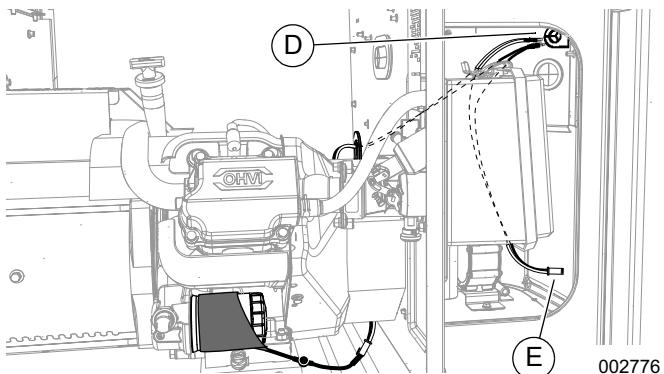

Figure 5. Lead Wires to Customer Connection (9 kW)
5. See **Figure 5**. Pass the lead wires through the customer connection panel grommet (D). If the empty Y-harness socket (E) will not be connected to a battery heater, coil the wires and secure with a plastic wire tie. Secure all wires with plastic wire ties at least 0.5 in. (1 cm) away from fuel hoses.